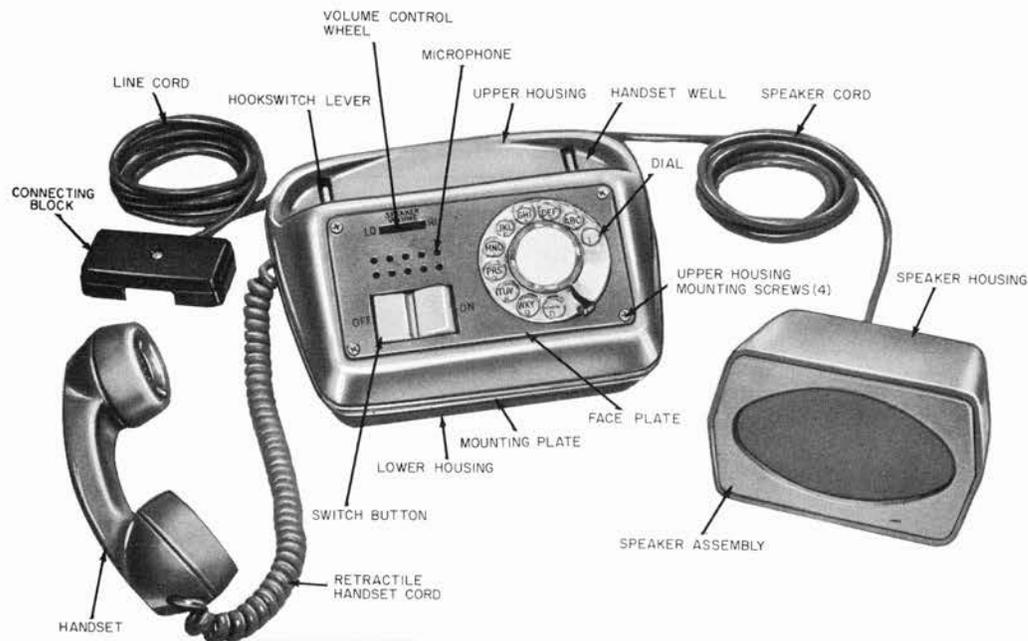

Figure 1. Type 880 Speakerphone.
3.02 To answer a call, press the ON side of the switch button (Figure 1). The neon lamp (located in the switch button) will start flashing. Upon hearing the distant party, adjust the speaker volume by rotating the speaker volume control wheel.